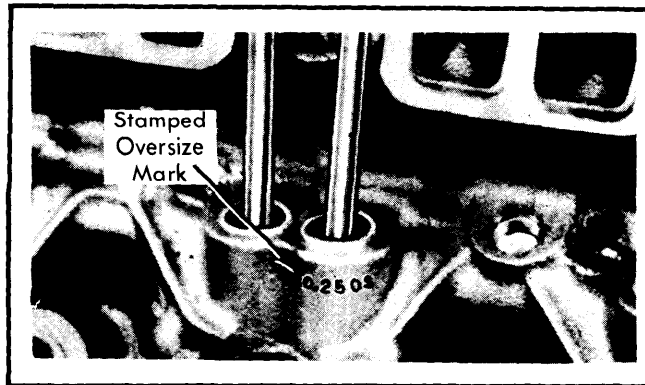

Fig. 8 Oversize Lifter Marking
**NOTE** — Some engines will have both standard and .010" oversize valve lifters. The cylinder block will be marked, where the oversize lifters are used, with a daub of white paint and 0.25 (mm) O.S. stamped on the lifter boss. See Fig. 8.